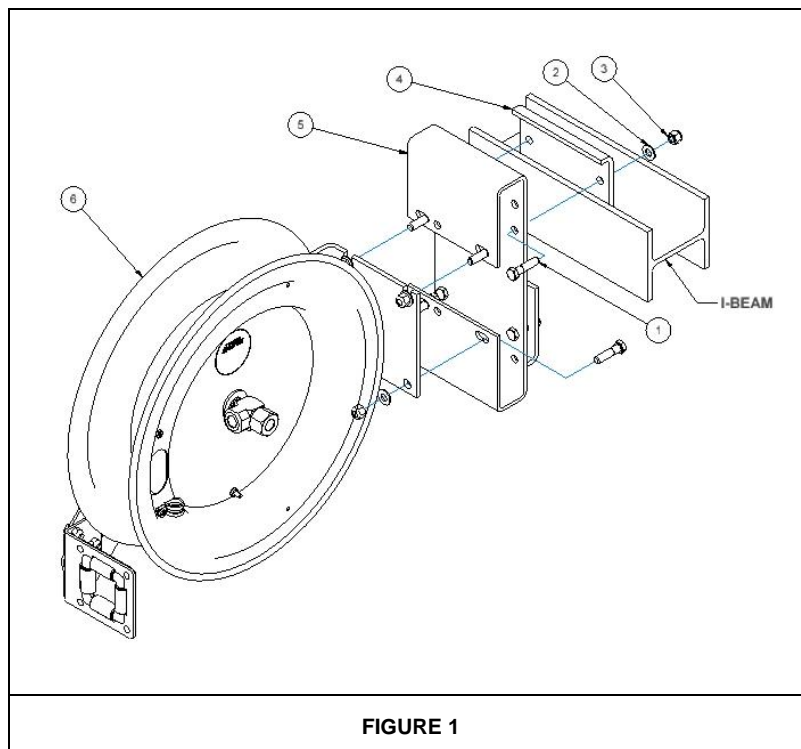

FIGURE 1
- Referring to Figure 1, on the MR-1/MRT-1 assembly, remove the bolts, washers, and nuts (ITEM #1, #2, and #3 respectively) that hold ITEM #4 to the main bracket (ITEM #5).
- Review reel to determine if roller bracket orientation is perpendicular to work area. If reel has arm guide and roller bracket as shown in Figure 1, you may need to move the arm guide to desired location. Simply remove four bolts holding arm guide, re-position, re-attached bolts and torque to proper specifications.